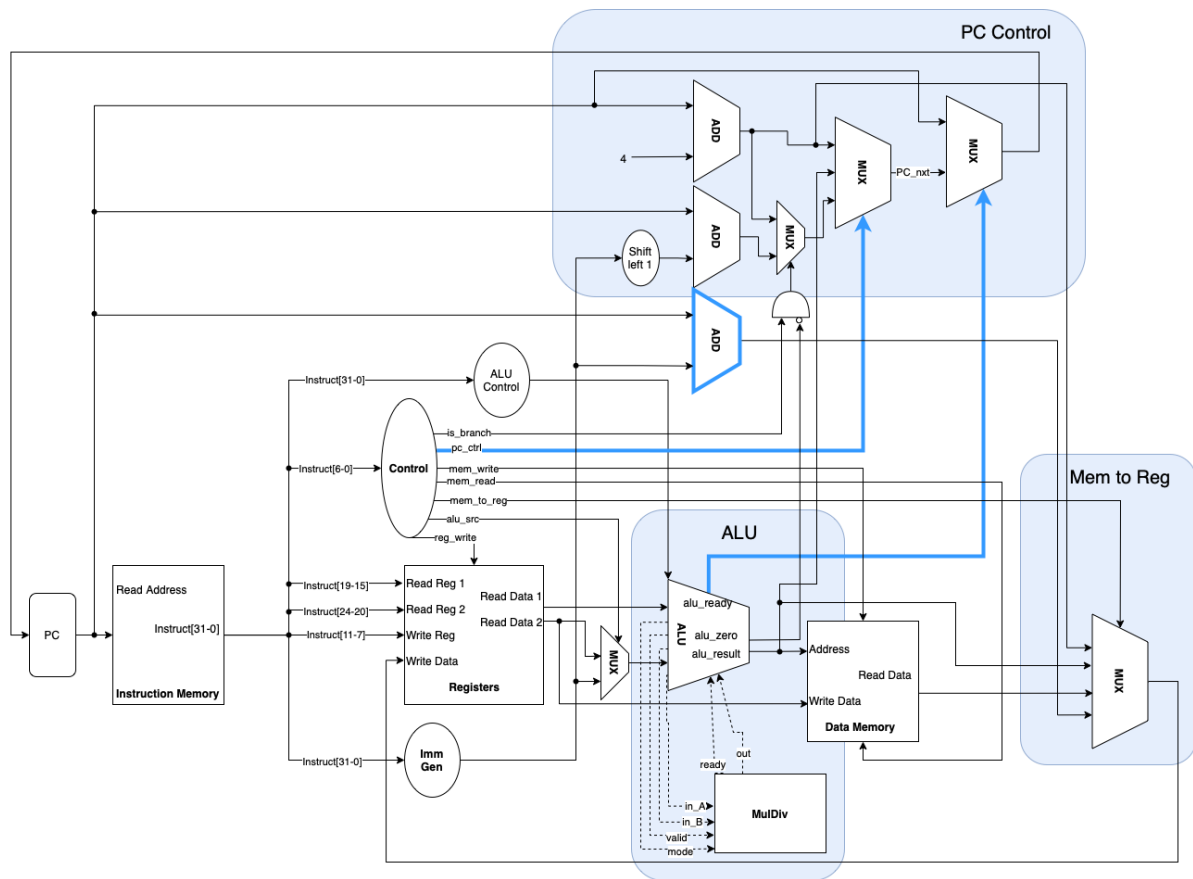

Figure1: CPU Architecture. Modules covered with blue blocks are modified and blue wires are added to support new instructions.
Based on the CPU design in the lecture slide, we additionally support three instructions: JAL, JALR, AUIPC, and multi-cycled multiplication (MUL). In response to the first three instructions, we modify the control unit of the program counter (PC) and the MemToReg multiplexer. Meanwhile, ALU integrates a multi-cycled MulDiv module to support MUL. It will deliver an `alu_ready` signal to other modules when a multiplication operation is done. A detailed architecture is shown in Figure1.